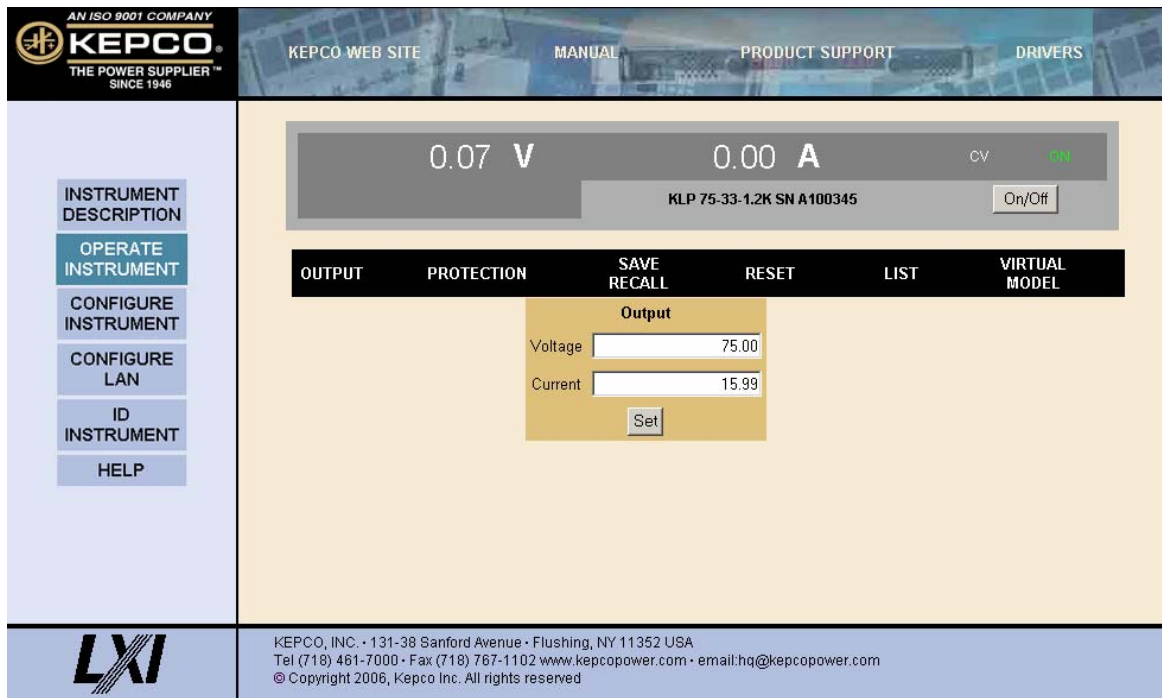

FIGURE 3-8. WEB INTERFACE OPERATE INSTRUMENT PAGE
The Output dialog box opens when the OPERATE INSTRUMENT page is first opened, or when **OUTPUT** is clicked (see Figure 3-8). To set output voltage or current, enter the values and click SET. Voltage and current settings are not allowed to exceed either a) the virtual model setting or b) 80% of the protection value. Attempts to set voltage or current beyond these limits will not be accepted. To turn the output on or off, click the ON/OFF button within the simulated front panel.
- **To save the active settings:** Enter the desired location (1 to 40) in the **LOCATION** box and click **Save State** button to save the active settings. Only the parameters shown in Figure 3-8 can be saved.